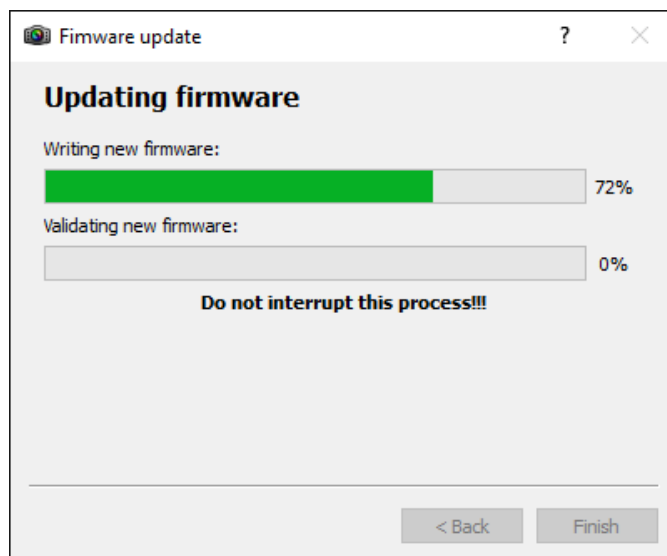

Figure 21 : Firmware Update process window
4. The next window displays the initiated firmware update. The firmware update process displayed in the first progress bar and the firmware validation displayed in the second, as shown in Figure 21.